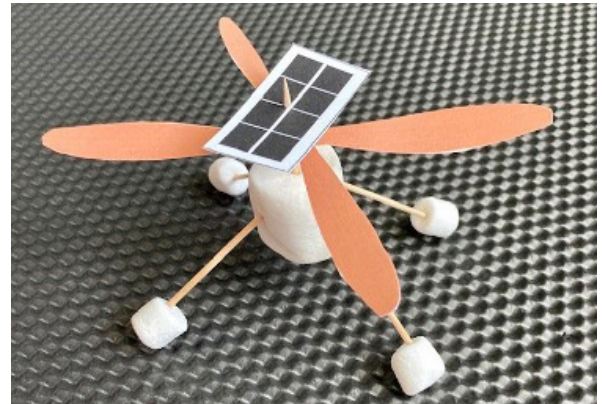

Figure 8. The toothpick containing the rotor blades and the solar panel is pushed through the top of the large marshmallow.
9. Push the end of the toothpick which is furthest from the solar panel down through the center of the top of the large marshmallow as shown in Figure 8.